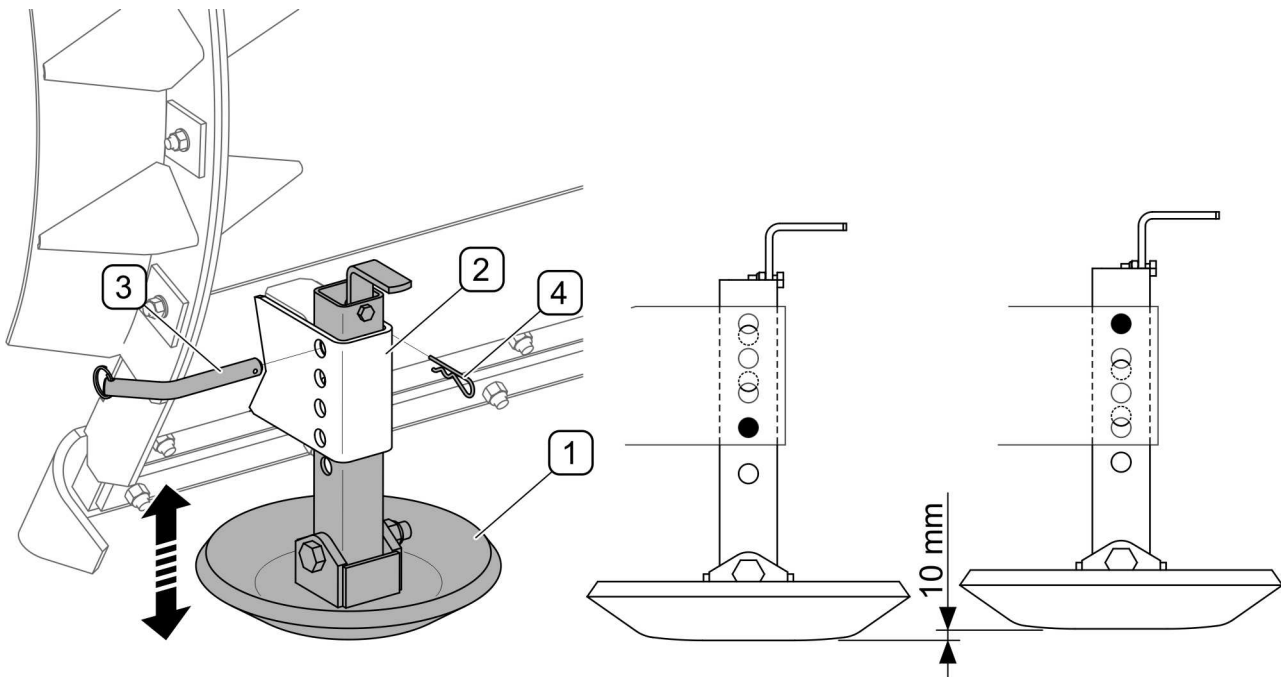

FIGURE 4.10 Height adjustment in ploughs equipped with slides.
(1) - slide, (2) - slide guide (3) - pin, (4) - locking linchpin
In ploughs PU-2600/PU-3300 equipped with slides (FIGURE 4.10) height adjustment is performed by unlocking pin (3) and the ejection or withdrawal of the slide (1) in the guide (2). Location of the slide in the guide can be changed with 10 mm increments by inserting the securing pin in the suitable hole of the guide. When the height is set, slides must be protected with a pin (3) and spring linchpin (4). Slides of the left and right blade should be put forward at the same height. The recommended distance of the collecting strips from the swept area is 5 to 10 mm. Adjustment of the left and right slide is carried out in the same way.